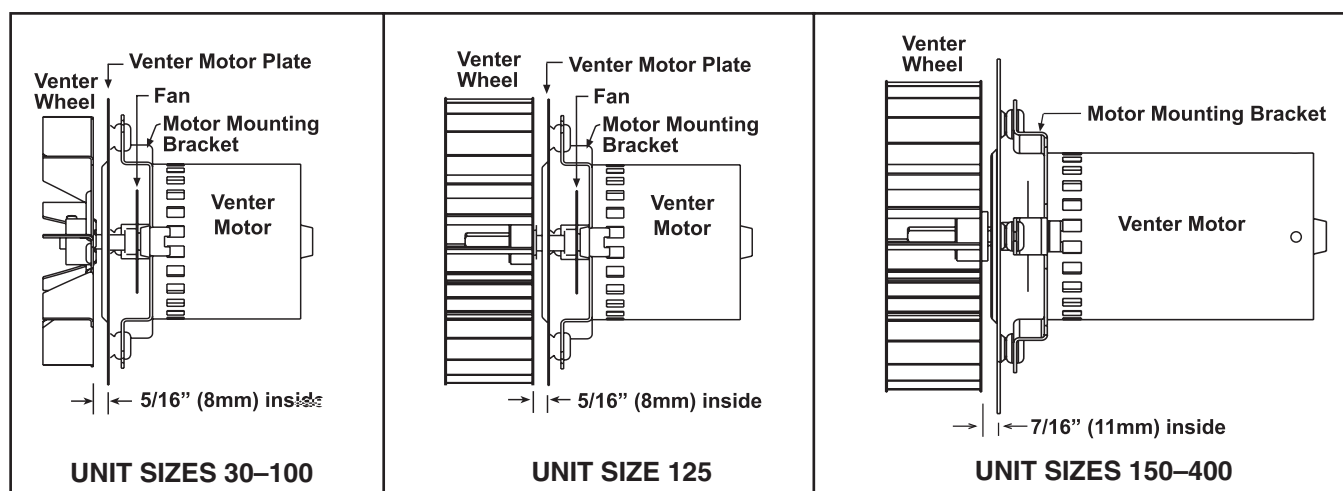

Figure 26. Venter Wheel and Motor Assembly
6. Reassemble with replacement venter motor and wheel. Ensure that venter wheel is properly positioned on shaft (see Figure 26).